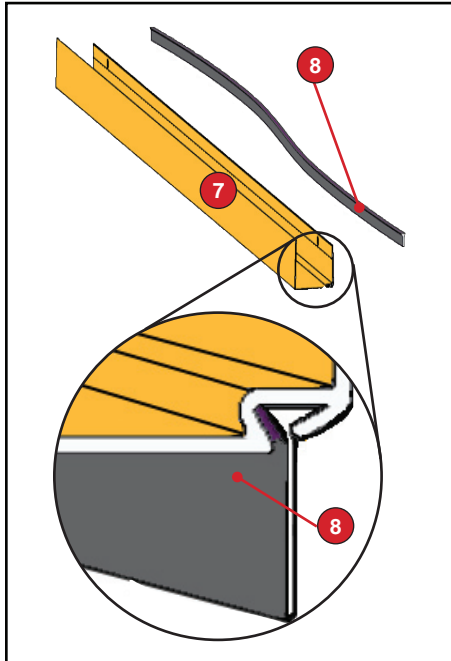

Figure 24
1. Slide the sweep fin into the track located on the bottom of the door sweep (Figure 24).